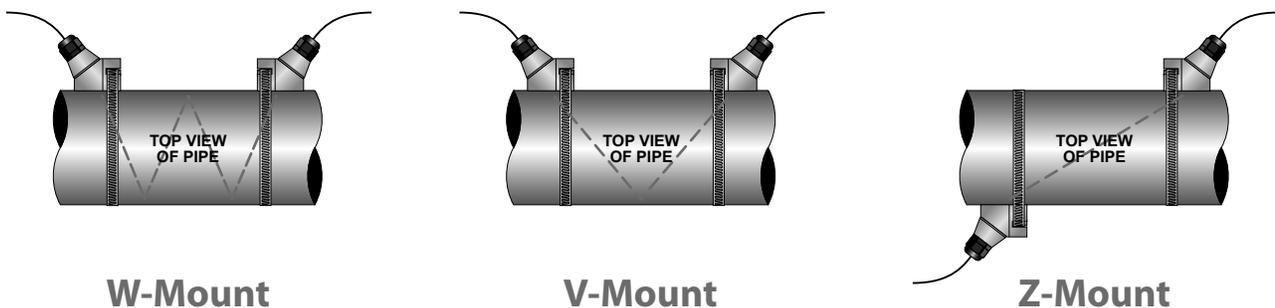

FIGURE Q.1 - TRANSDUCER MOUNTING CONFIGURATIONS
- 2) If the application requires DTTN, D TTL or D TTH transducers select a mounting method for the transducers based on pipe size and liquid characteristics. See **Table 2.2**. Transducer configurations are illustrated in **Figure Q.1** below.